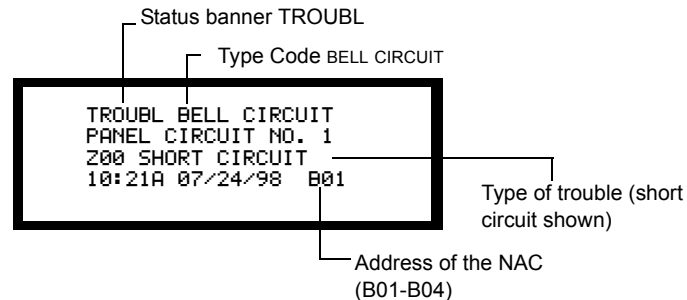

Figure 107 Sample Display of a Panel Circuit in Trouble
- A TROUBL status banner and a BELL CIRCUIT Type Code is displayed on the LCD display, along with information specific to the device, as shown in Figure 107.